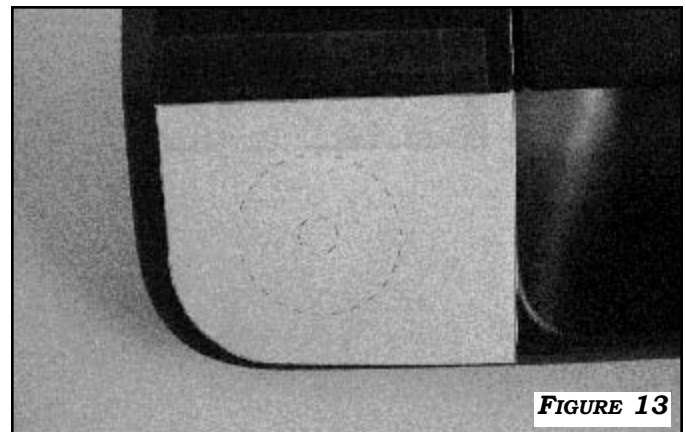

FIGURE 13
1. CUT OUT THE CAMERA HOLE DRILLING TEMPLATE ON PAGE 5 OF THIS MANUAL. AFFIX IT TO THE TAIL GATE LATCH AS SHOWN IN **FIGURE 13.** DRILL A 1/4" PILOT HOLE AND THEN ENLARGE IT TO 1-1/16". CLEAN AND DE-BURR THE HOLE.